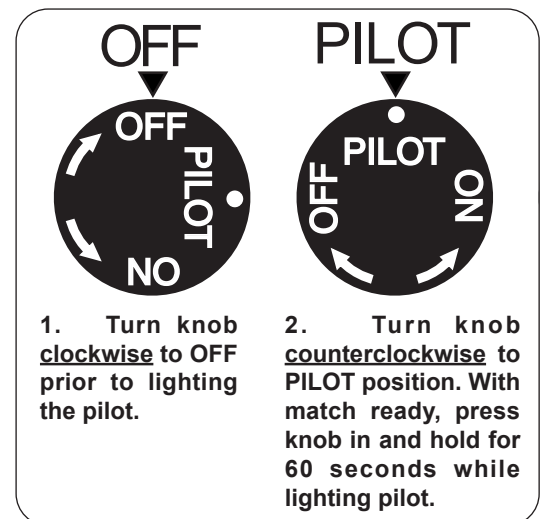

Fig. 9-1 Control knob detail (OFF, PILOT)
1. Locate the valve on the side of the unit. Push in the gas control knob slightly and turn clockwise to **OFF** (Fig. 9-1).
2. Turn the control knob counterclockwise to **PILOT** (Fig. 9-1). Push the control knob **firmly and fully** in and hold. Hold a match or butane lighter near the thermocouple to light the pilot. Continue to hold the control knob in for approximately 60 seconds after the pilot is lit, then release the knob. The pilot will remain lit.